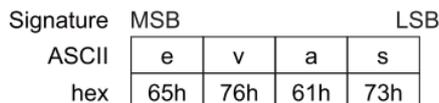

Fig. 4-1
(2) When drive is at “Switch on disable” state (servo off status), the command from host controller received by sub-index 1 of this object is shown in Fig. 4-1. Drive will save parameters into EEPROM and respond to host controller on the same sub-index to indicate that parameters saving is completed. After saved, drive should be reset. If the received command sent by host controller is different with that shown in Fig. 4-1, drive omits this command.